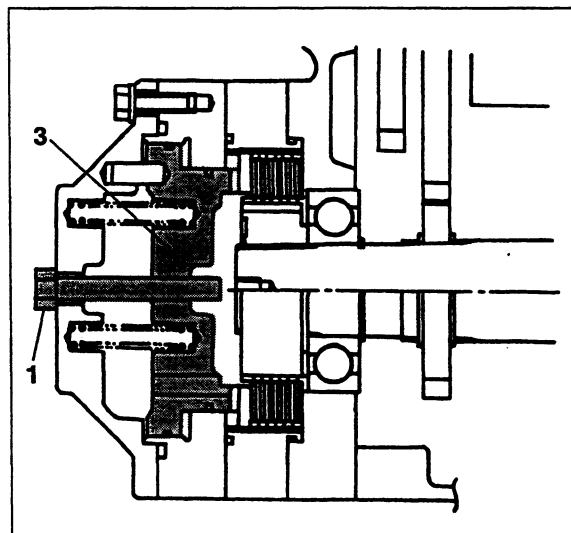

Fig. 3-10
1. Remove the manual release bolt and nut (1) from the parking brake cover on the transmission housing.
2. Remove the plug (2) from the middle of the cover.
3. Insert the bolt (1) into the plug hole and screw it into the threaded hole at the centre of the brake piston (3), as shown in Fig. 3-10.
4. Screw the release bolt fully in to retract the brake piston (3) and release the brake disc.